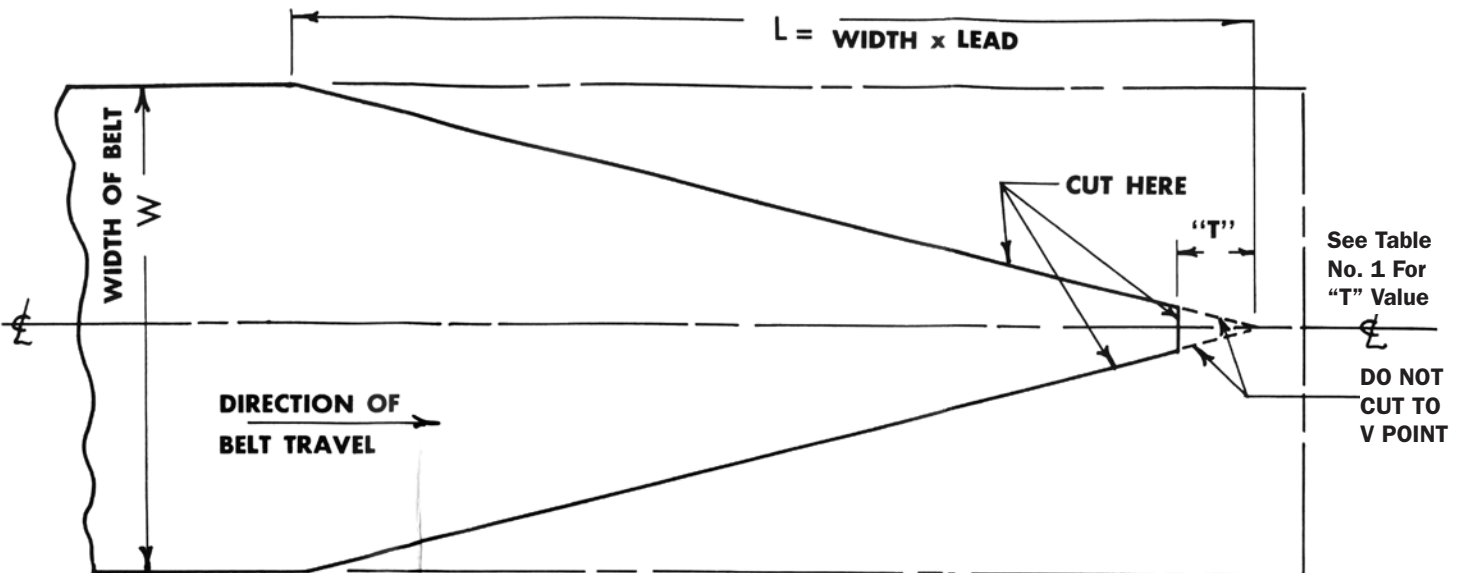
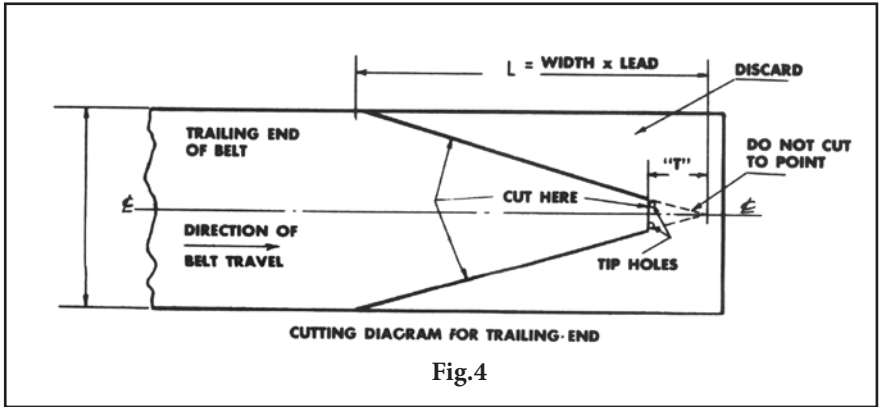

Fig. 2
Fig.4
** Distance "T" is area not cut at point of V tip as shown in Fig. 4
4. Layout and cut TRAILING END of belt into Wedlok Splice V-shape as per cutting diagrams, Fig. 4 and Fig. 2. Use a No. P2P Flexco punch for hand operation or an HP2 Flexco punch for power application and punch holes at corners of tip as shown. These holes facilitate in cutting the splice at the tip.